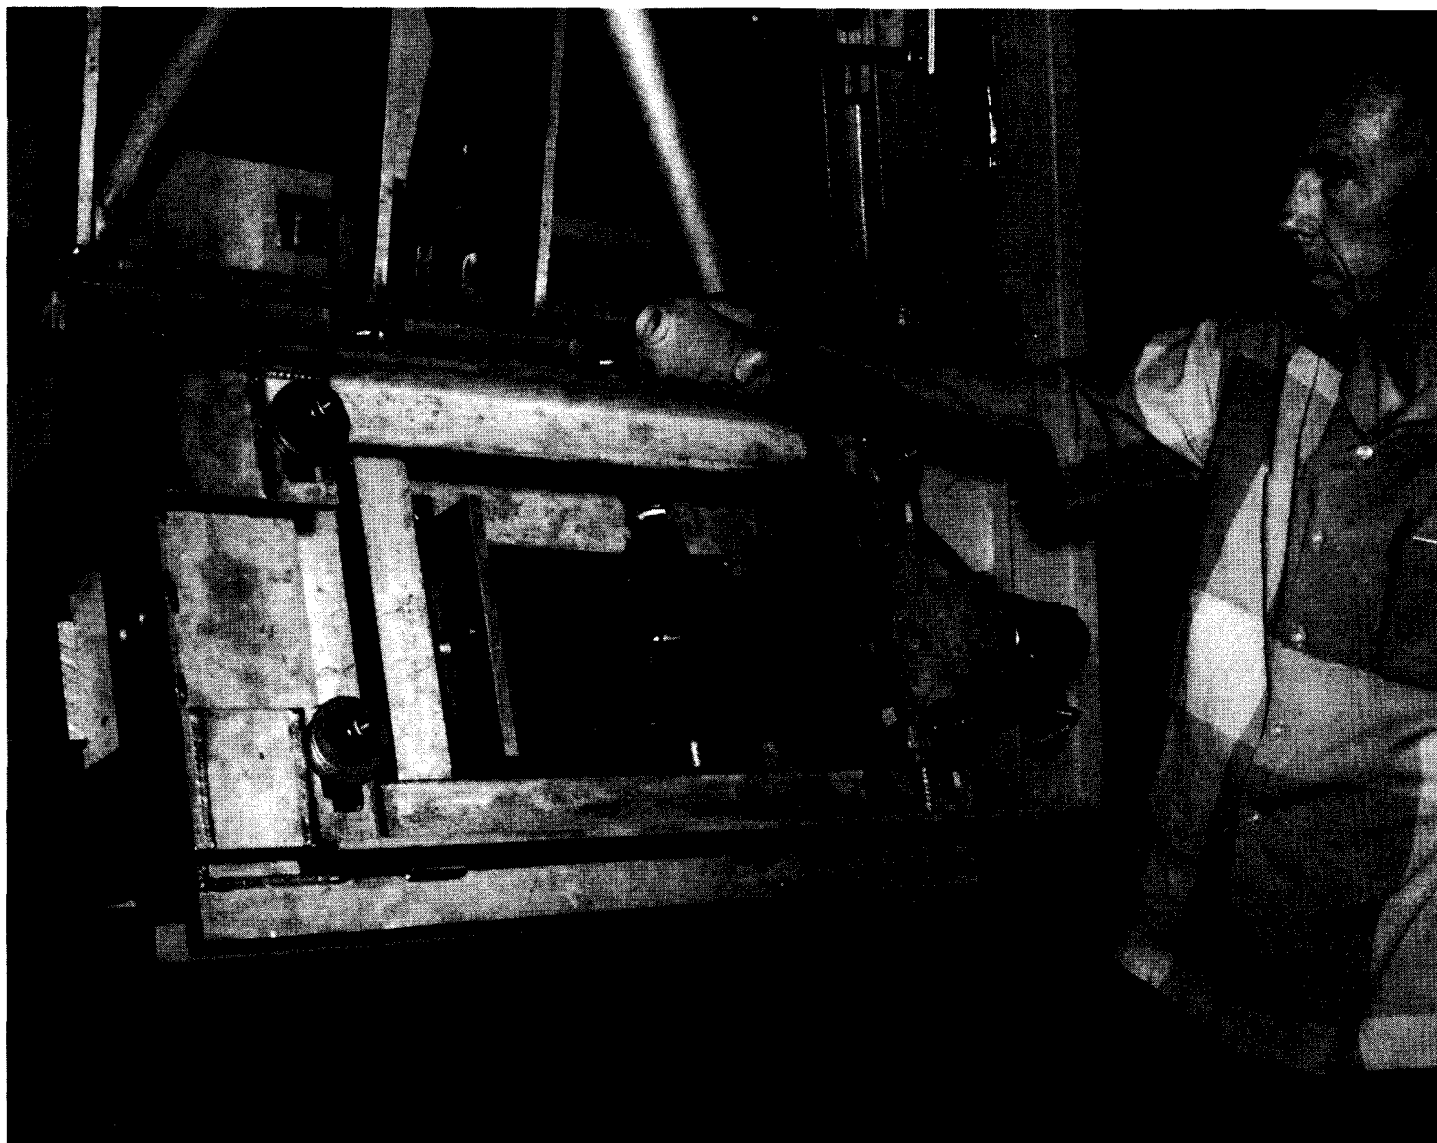

FIG. 1
The air relief valve is set for 55 psig. If air pressure is set below this, the impact wrench will not start every time under no load. The impact wrench should have one ounce of "Marvel Mystery Oil" poured into the air inlet each day of use or it may not start. (see fig. 1) Reservoir should be half full of SAE #30 oil (plug should be on horizontal).
- C. Place one ounce of "Marvel Mystery Oil" in air intake (fig. 1). Turn on air and run through impact wrench.